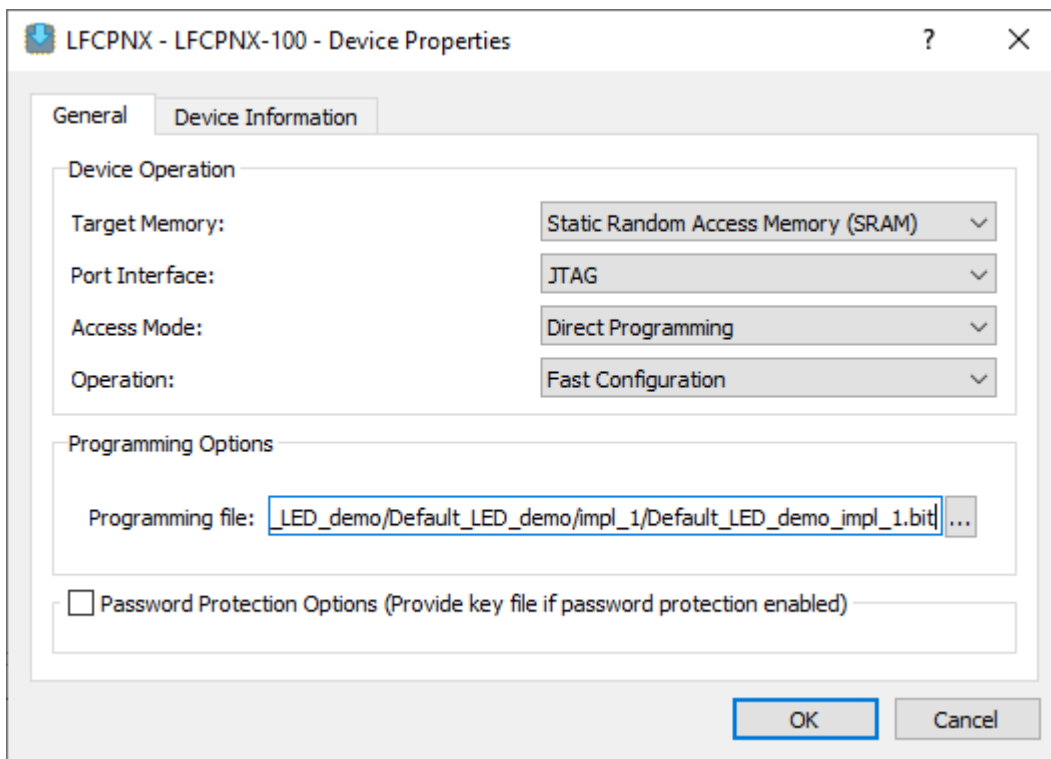

Figure 4.5. Radiant Programmer – Fast Configuration Device Properties
- b. The **Device Properties** dialog box opens (Figure 4.5). Select the following options: